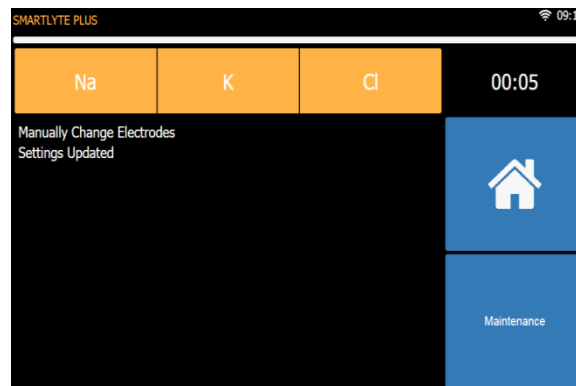

Figure 1-59 Change Electrodes
- Press [**CLEAN**] (Figure 1-59)